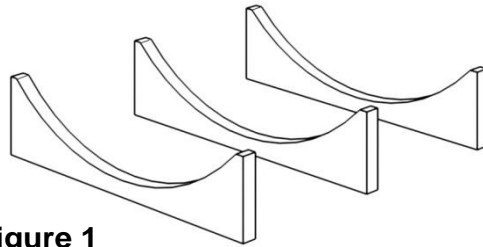

figure 1
Place the bottom support cradles at their desired locations. See figure 1. Determine where the front and rear cradles will be positioned. The GDI-B024-01 model will have (3) support cradles. See figure 1a. The end support cradles will have a sticker indicating where the first stave will screw to the cradle. To avoid damaging your floor, it is not recommended to move the sauna once it is assembled. If the unit is moved, please do so carefully and cautiously.